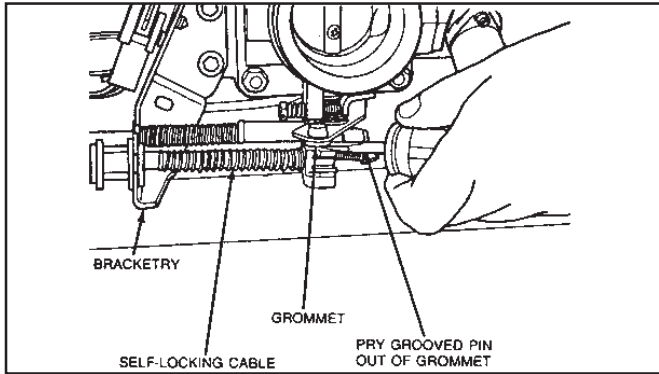

Figure 25
7.9 Remove gauge tool and pry grooved pin out of grommet on throttle lever. (See Fig. 25.)